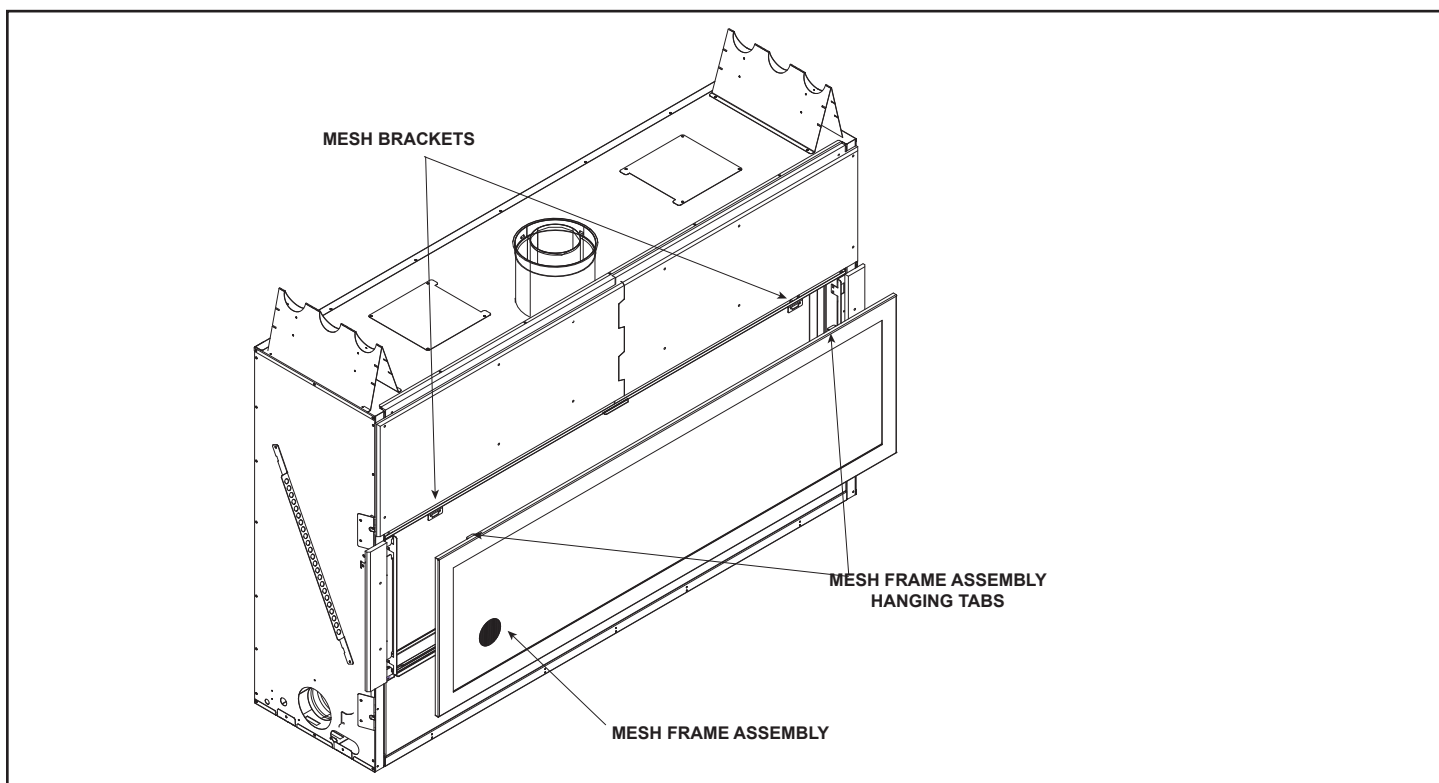

Figure 13.10 Mesh Front Installation
**Note:** For non-combustible fireplace finish material (marble, stone, etc) specifications refer to Figure 13.10 and Figure 13.11.
To attach the mesh front to the appliance, use the two mesh brackets. These brackets are mounted to the underside of the top of the appliance viewing area and are fastened to the appliance by two screws on each bracket. See Figure 13.10. There are two hanging tabs on the back of the mesh front assembly that are bent upward. Engage these tabs in the slot of the brackets.